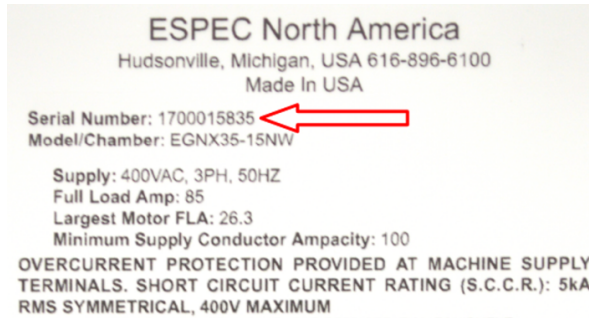

Figure 1.6: Serial number of the chamber
For a chamber with SCP220, ES102 or F4, EWC can be accessed with its hostname via a PC on a DHCP network. The hostname of EWC is based on the chamber serial with the following format: <http://especSN.local/> where SN is the serial number of the chamber, as depicted in Figure 1.6.
6. Enter <http://especSN.local/> in the URL address field. Refer to Figure 1.6.